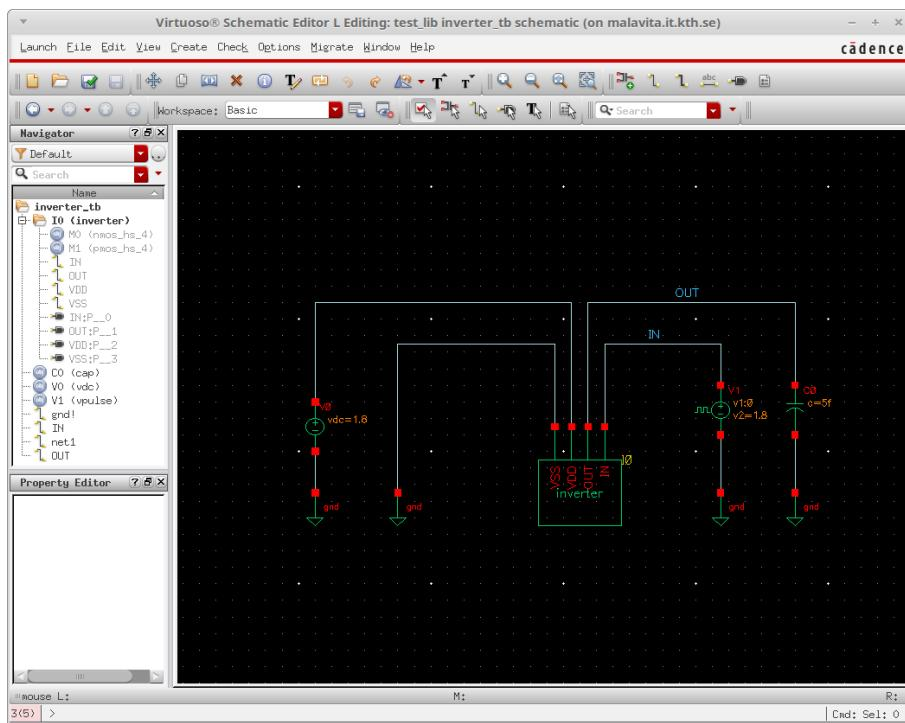

Figure 20: Final Schematic of the inverter's testbench
3. Add the rest of the passive components (you can find them in the analogLib) and build the circuit shown in Fig. 20. These components are: